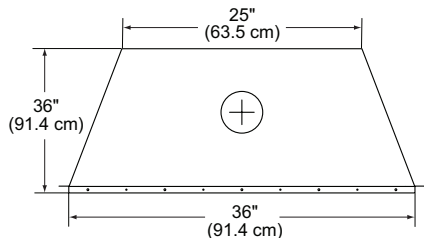

Figure 3 - Fireplace Bottom Dimensions
- If your fireplace is to be installed directly on carpeting, vinyl, tile or any combustible material other than wood, it must be installed on a metal or wood panel extending the full width and depth of the fireplace (see Figure 3).